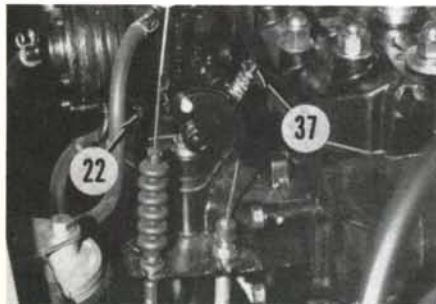

Fig. JS2-9—View identifies location of low speed mixture needle (22) and idle speed screw (37) on JS550 models after 1985.
from a lightly seated position. On JS550 models after 1985, initial setting of pilot needle (P—Fig. JS2-8) is 1-5/16 turns out from a lightly seated position. Initial setting of low speed mixture needle (22—Fig. JS2-9) is 1-1/16 turns out from a lightly seated position. Initial setting of high speed mixture needle (29—Fig.
JS2-8) is 15/16 turn out from a lightly seated position. Final carburetor adjustments must be made with engine at normal operating temperature and running. Adjust pilot needle (P), on models so equipped, until a smooth idle is noted. Adjust low speed mixture needle (22—Fig. JS2-6 or Fig. JS2-9) until smooth acceleration from the idle position is noted. After adjusting low speed mixture needle, adjust idle speed screw (37—Fig. JS2-6 or Fig. JS2-9) until engine idle speed is approximately 1700-1900 rpm on JS440 models or 1400-1600 rpm on JS550 models with throttle lever completely released. To adjust high speed fuel:air mixture, the engine spark plugs must be removed and insulator tip color noted.